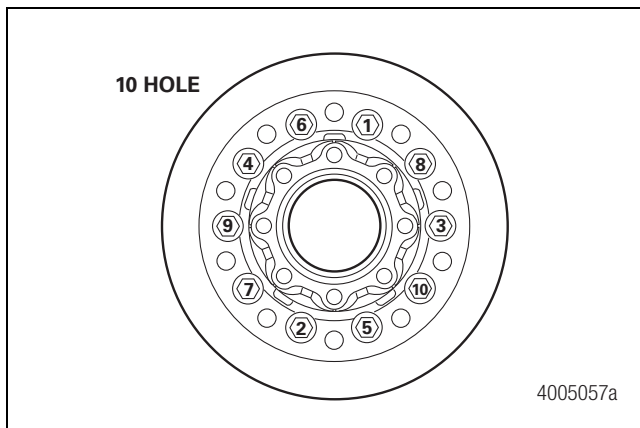
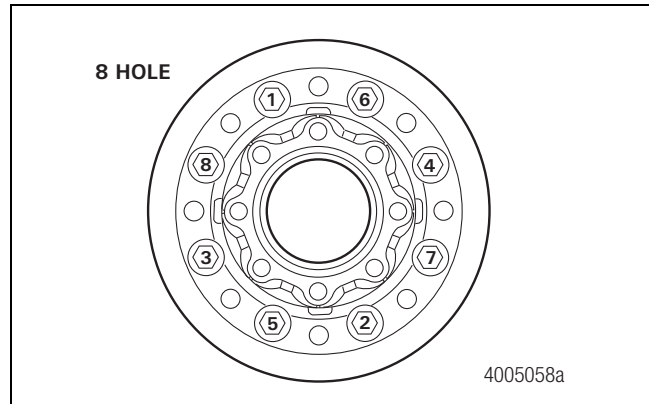

Figure 7.9
Figure 7.10
7. Tighten the hub-to-rotor bolts in a crisscross pattern to the correct torque. Refer to Section 10. Figure 7.9 or Figure 7.10.